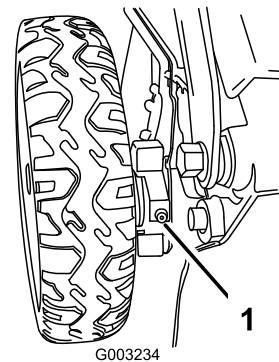

Figure 39
1. Wipe the grease fittings just inside the rear wheels with a clean rag (Figure 39).